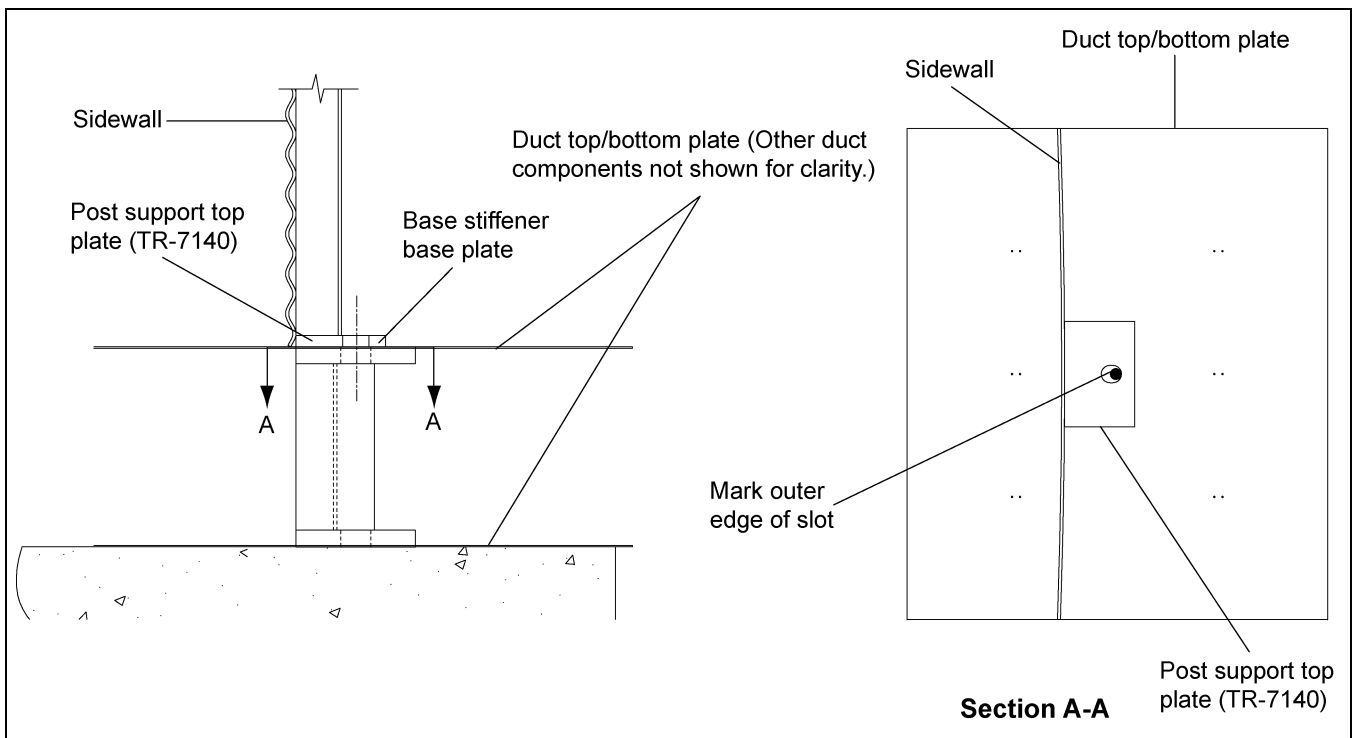

Figure 8
2. Temporarily install the base stiffener and align the slots in the top plate of the post support with the slots in the base plate on the base stiffener. Mark the duct top/bottom plates as shown in section A-A (See Figure 8) and pre-drill for anchor bolt. (Base stiffener cannot be installed until TR-7140 installation is complete.)